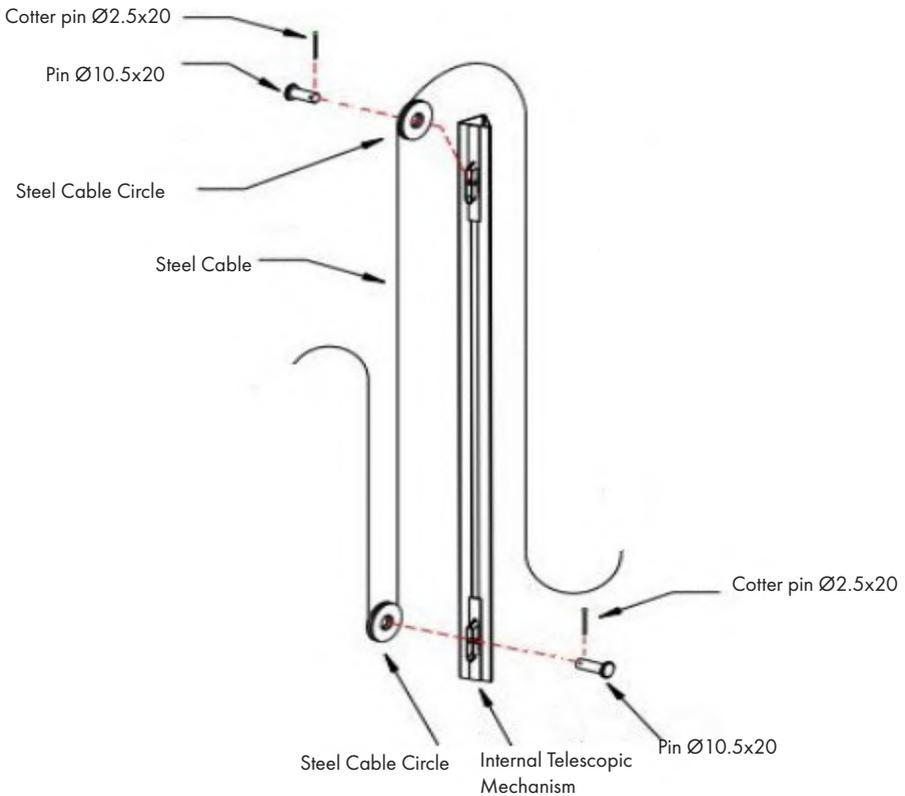

Figure 16
- Continue inserting the cable in internal telescopic mechanism (which was removed in an earlier step). Pass the cable inside these mechanisms and insert steel cable circle in a way so that cable passes through its radius. Finally make connections using Pin Ø10.5x20 and Cotter pin Ø2.5x20 as indicated in Fig.16.